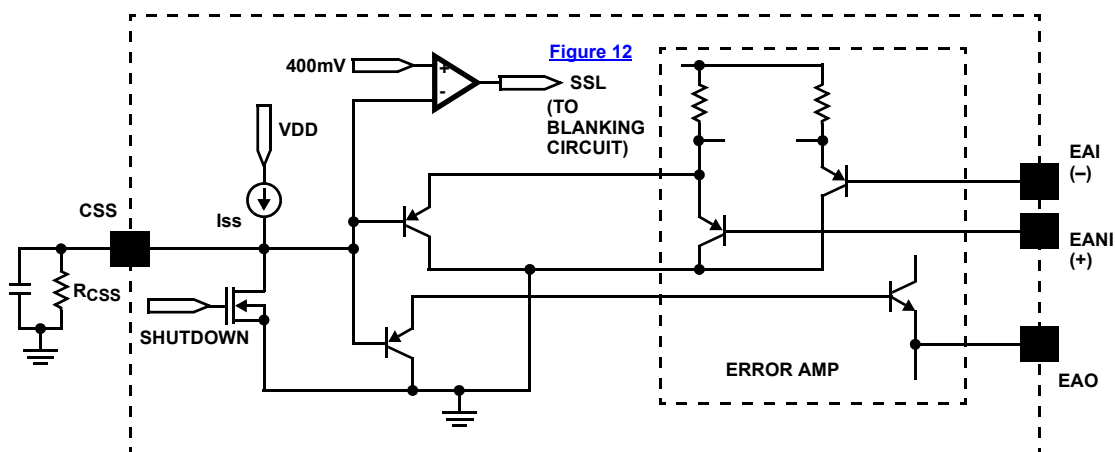

FIGURE 7. SIMPLIFIED CLAMP/SOFT-START
- Both EANI and EAO are clamped by the voltage (Vclamp) set at the CSS pin, as shown in Figure 7. Note that the diodes in the functional block diagram represent the clamp function of the CSS in a simplified way.
- The clamping voltage determines the cycle-by-cycle peak current limiting of the power supply. It should be set above the EANI and EAO voltages and can be programmed by an external resistor as shown in Figure 7 using Equation 3.
- In current mode control, the sensed switch (FET) current is processed in the Ramp Adjust and LEB circuits and then compared to a control signal (EAO voltage). Spikes, due to parasitic elements in the bridge circuit, would falsely trigger the comparator generating the PWM signal. To prevent false triggering, the leading edge of the sensed current signal is blanked out by a period that can be programmed with the R_LEB resistor. Internal switches gate the analog input to the PWM comparator, implementing the blanking function that eliminates response degrading delays, which would be caused if filtering of the current feedback was incorporated. The current ramp is blanked out during the resonant delay period because no switching occurs in the lower FETs. The leading edge blanking function will not be activated until the soft-start (CSS) reaches over 400mV, as illustrated in Figures 7 and 12. The leading edge blanking (LEB) function can be disabled by tying the R_LEB pin to VDD, i.e., LEB = 1. Never leave the pin floating.